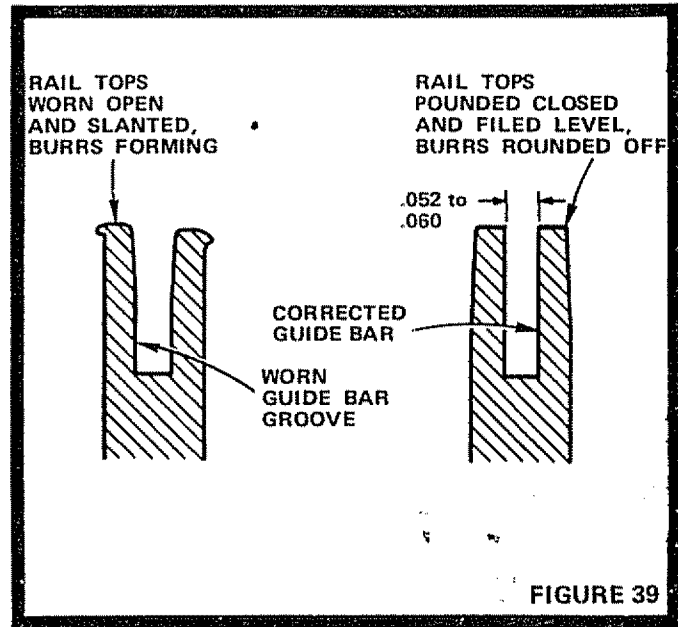

FIGURE 39
1. Chain Cutter and Link bottoms riding on Guide Bar Rails will normally roll some Bar Material to the outside of the Rails especially in actual cutting area of Guide Bar. These "burrs" should be removed as they form or they will chip away during use taking more Bar material with them. Check Bar for burrs at each Chain sharpening (Fig. 39).
- a. File uneven Rail top wear flat, perpendicular to Guide Bar (Fig. 39).
- b. Hammer worn, open Rails closer together to restore correct Chain Groove-between .052 and .060 inch (Fig. 39). **NOTE: MAKE SURE CHAIN RUNS EASILY IN CORRECTED CHAIN GROOVE BEFORE REASSEMBLY.**